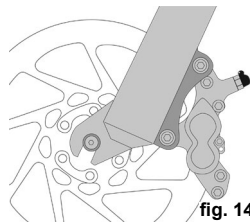
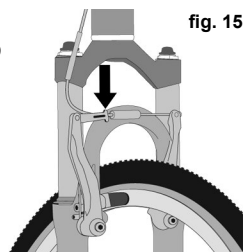

fig. 14
fig. 15
(1) If your bike has rim brakes, disengage the brake's quick-release mechanism to increase the clearance between the tire and the brake pads (refer to **Page 26, Section 4: "Tech", subsection C: "Brakes", figs. 14 through 18**).
(2) If your bike has rim brakes, disengage the brake's quick-release mechanism to increase the clearance between the wheel rim and the brake pads (refer to **Page 26, Section 4: "Tech", subsection C: "Brakes", figs. 14 through 18**).
(3) On a derailleur gear system, pull the derailleur body back with your right hand.
3. Some bicycle brakes, such as disc brakes (fig. 14) and linear-pull brakes (fig. 15), are extremely powerful. Take extra care in becoming familiar with these brakes and exercise particular care when using them.
Most rim brakes have some form of quick-release mechanism to allow the brake pads to clear the tire when a wheel is removed or reinstalled. When the brake quick-release is in the open position, the brakes are inoperative. Make sure that you understand the way the brake quick-release works on your bike (see **figs. 15, 16, 17 & 18**) and check each time to make sure both brakes work correctly before you get on the bike.